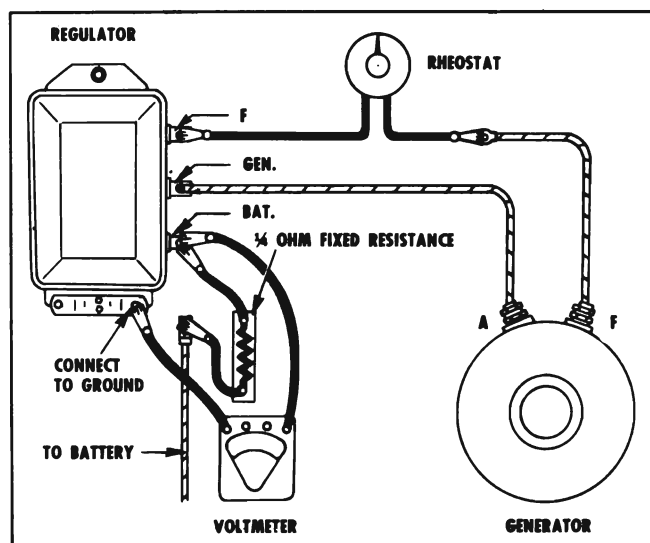

Figure 10-15—Testing Voltage Regulator
8. Voltage Regulator Test. Turn rheostat variable resistance to "OPEN" position and change one rheostat lead from ground to "F" terminal of regulator. Connect a 1/4 ohm resistor (approximately 25 watts) into charging circuit at "Bat" terminal of regulator. See Figure 10-15.